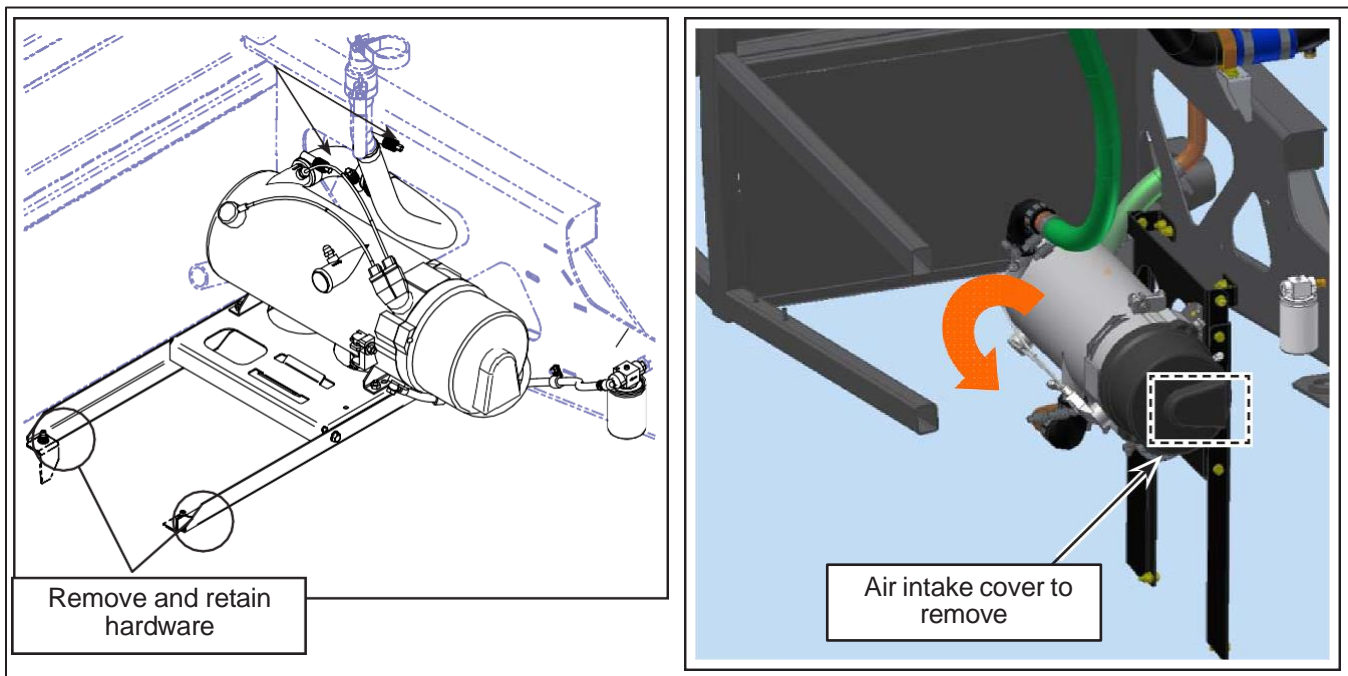

Figure 5 - Auxiliary Heater Pivot Down
- 1.12. Remove the hardware fixing the auxiliary heater cradle to the frame and pivot the auxiliary heater cradle downward. Retain the hardware See Figure 5.
- 1.13. Remove and discard the air intake cover from the auxiliary heater. See Figure 5.